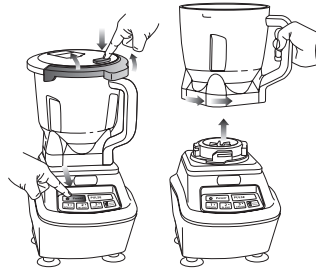

Fig. 2
- 6 Plug the power cord into the electrical outlet and press on the power button (⏻). **(Fig. 2)** Select the speed that best suits your needs. Pulse ingredients for even chopping by pressing down in short intervals.